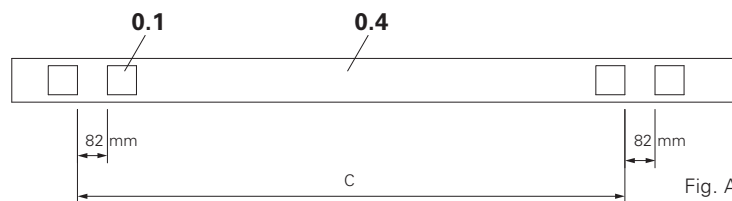

Fig. A1.02
1 plank 40 x 120 mm, L = bracket spacing + max. 1.0 m Formlining blocks (4) (Fig. A1.02)
- For spacings: see Fig. A1.02.